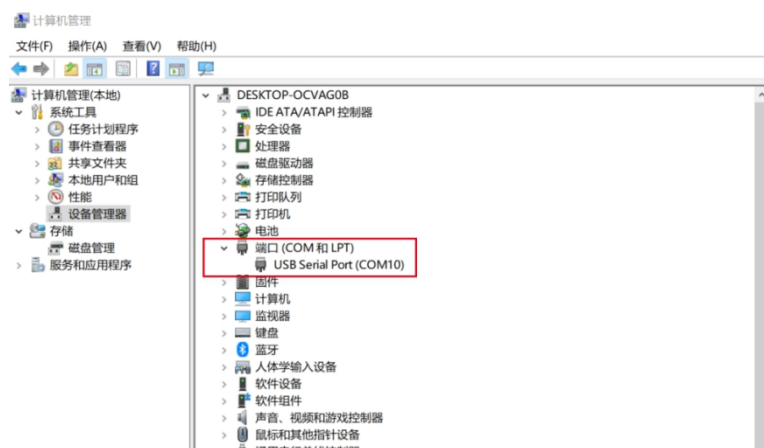

Fig.3.2.1
(1) Software installation: Win7 / Win8 / Win8.1 / Win10.net
(2) Connection: connect the data cables or wireless data transmission. USB cable connects to your computer.
(3) Driver Debugging: Right click “My Computer” to “Computer management”, click “Device Manager”. User can find “USB Serial Port (COM XX)” which indicates driver has been installed automatically , as shown in Fig. 3.2.1